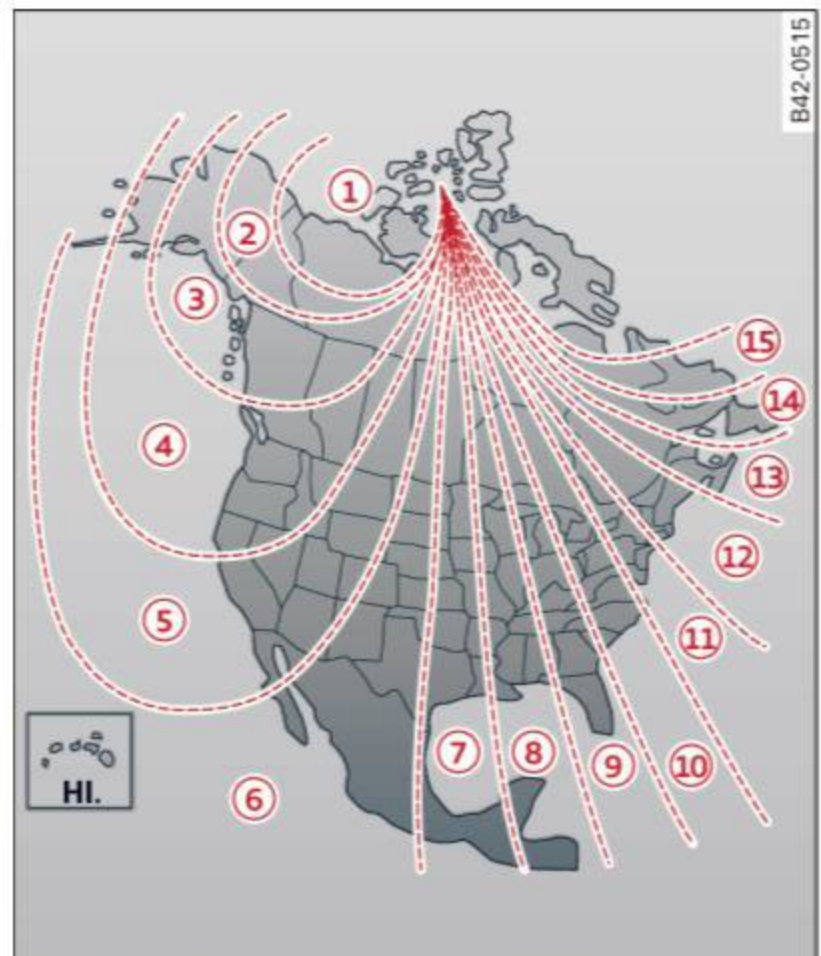

Fig. 57 North America: magnetic deflection zone boundaries
- ▶ Press and hold the button **A** ⇒ fig. 57 until the number of the magnetic zone appears in the rearview mirror.